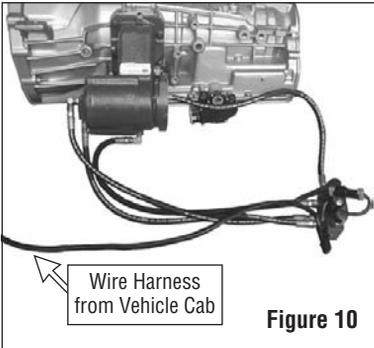

Figure 10
- 27a. Route the wiring harness from the vehicle front passenger compartment to the solenoid valve. *Figure 10*